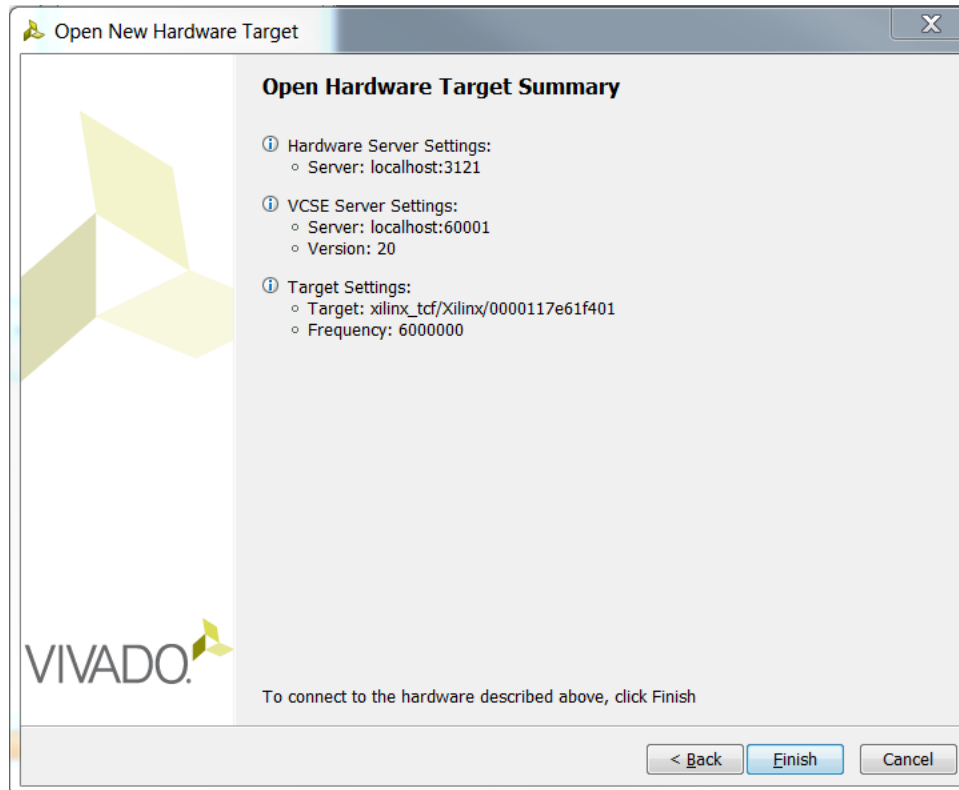

Figure A-7: Open New Hardware Target
- Click **Finish** on the Open Hardware Target Summary panel (see Figure A-7).